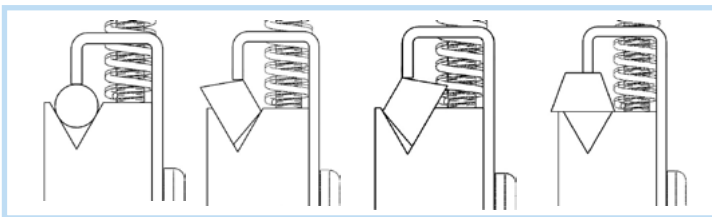

Fig. 6
4. Release the clamp and allow the spring load to lock the belt ends in place. Adjust the knurled nut (18) if needed. Correct locking positions for VaR belts shown in Fig. 6.